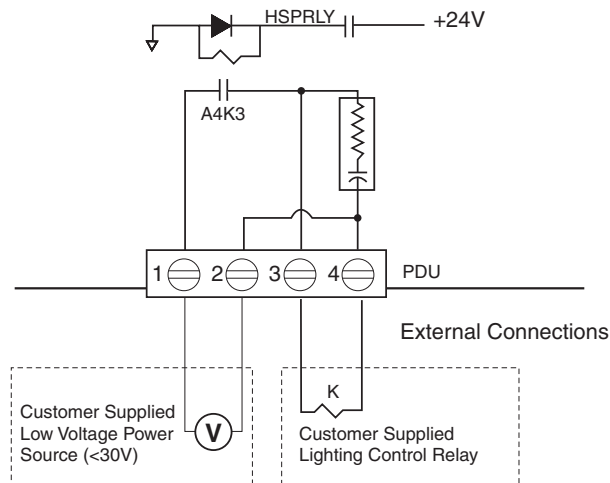

Figure 2-34 External X-ray Light Connection
- 2.) This step is site-specific. By default, the PDU is configured for “no” external X-ray light connection. If you have an external X-ray light, see Figure 2-34 for proper connection.
It is recommended to use the four (4) wire method of adding an X-ray warning light to a room, as shown in Figure 2-34. When using this method, you: